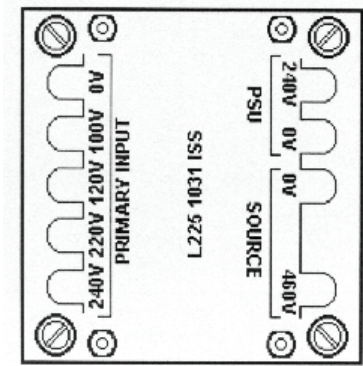

Figure 83 Connections to the transformer
10. Turn the lamp so that the trigger strip, as shown in Figure 83, is located to the right, pointing towards the small mirror next to the entrance slit, as shown in Figure 84.